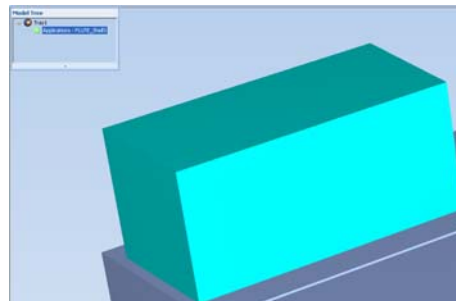

Figure 5-36: Model displayed with bounding box
- With a *Bounding Box* (see figure 5-36 on page 29)